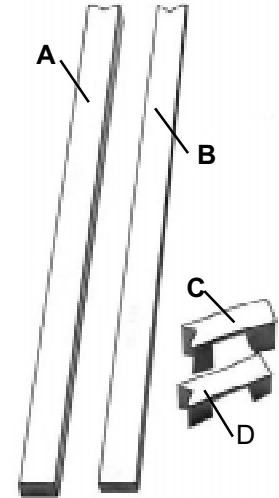
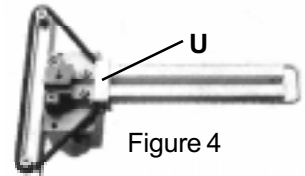

Figure 2
Figure 4
1. There are two **Compensators**, one labeled 7mm (**A**) for the 1/4" **Nails**, and the other is labeled 10mm (**B**) for the 3/8" **Nails**. See Figure 2. Select the 10mm **Compensator (B)** and slide it into the nail path from the rear of the machine with its pin toward the rear and pointing downward. After pushing it in as far as it goes, press down on the rear end of the **Compensator (E)** in Figure 3, and the pin will lock it in place.
2. Pull the spring loaded **Follower (F)**, (Figure 3), to the rear and insert a stack of 10mm (3/8") **Nails** in the nail path with the glue side up and the bend toward the rear. Set the large **Pusher (C)**, (Figure 2), for 3/8" **Nails**, over the **Nail Block (U)**, (**Figure 4**), with the notch toward the front, against the **Nails**. Release the **Follower (F)**. The smaller **Pusher (D)** is used for 3/16" (4mm) and 1/4" (7mm) **Nails**.